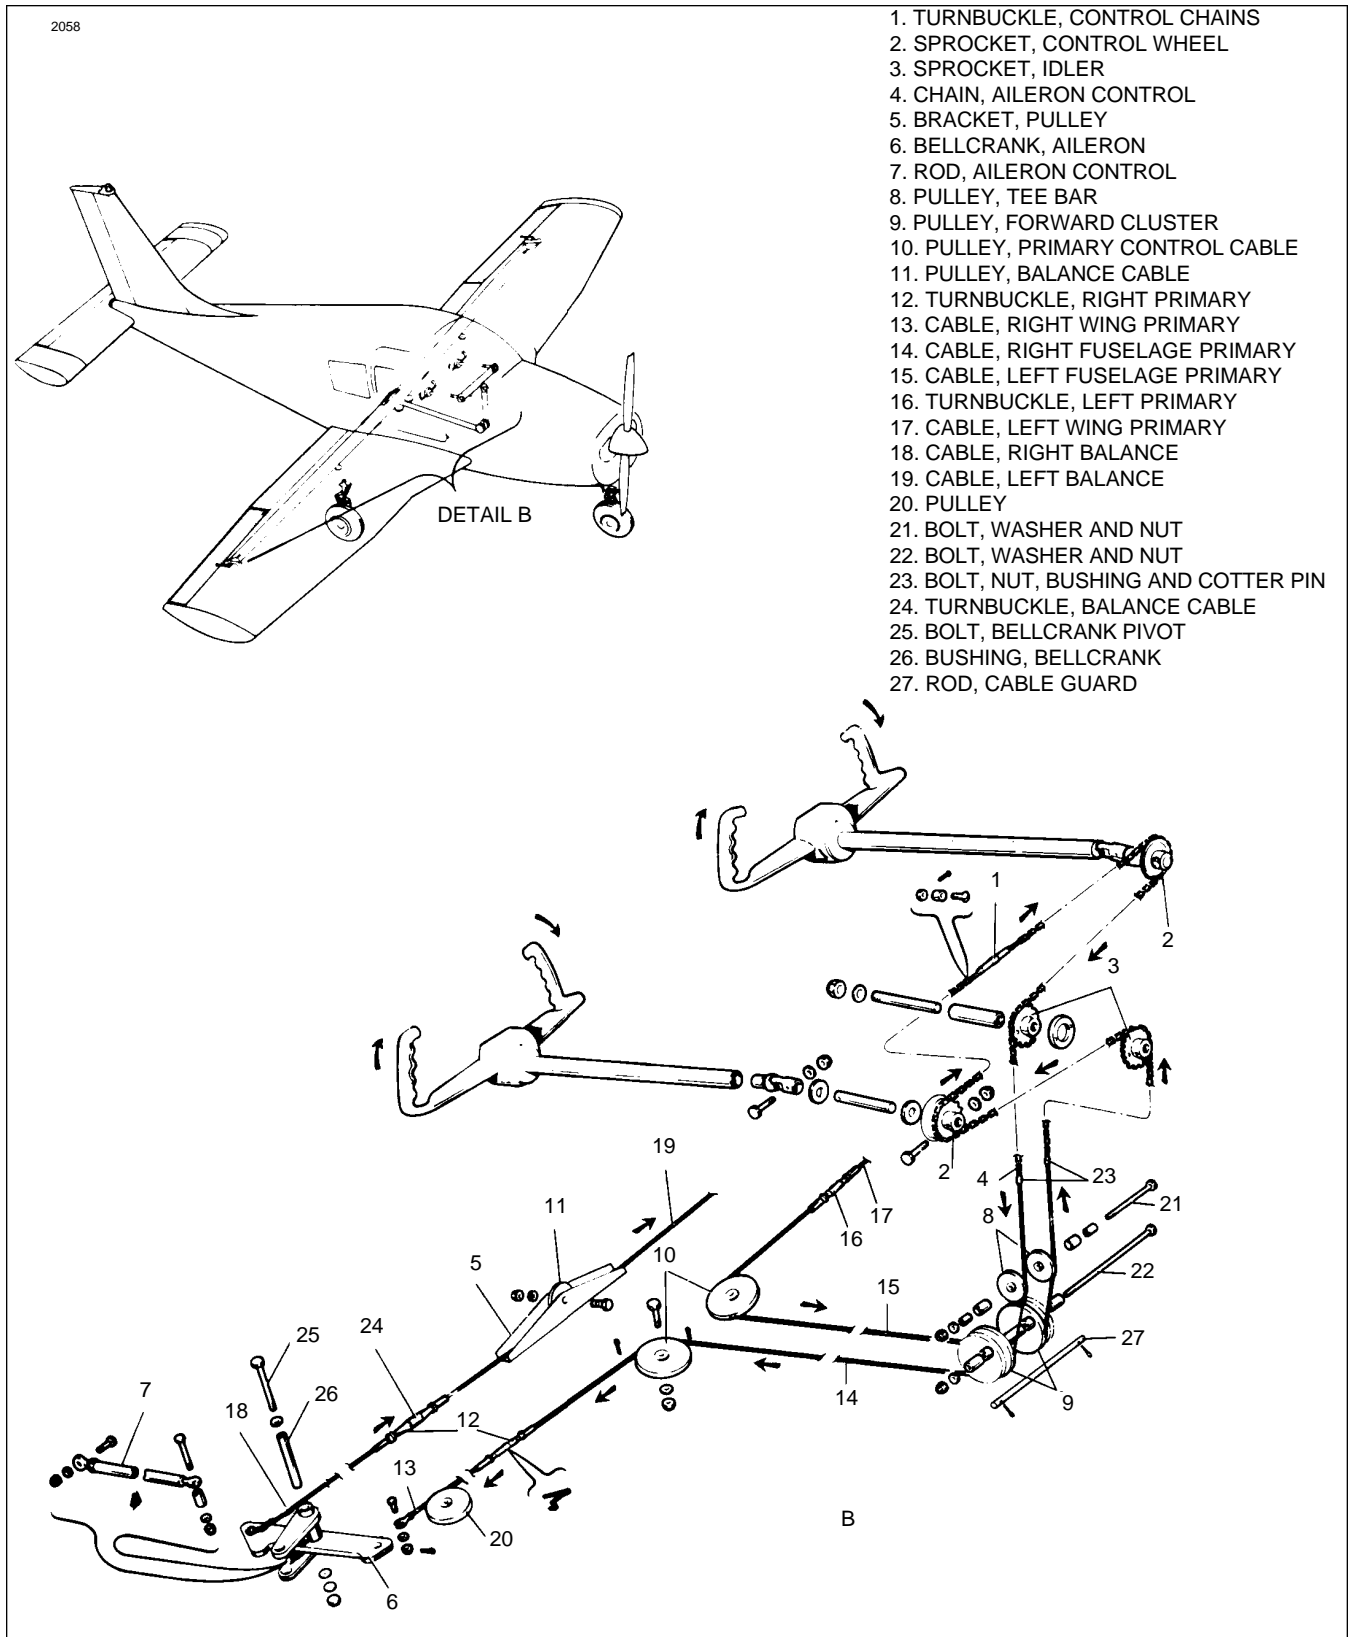

Figure 5-3. Aileron Controls
5-12. RIGGING AND ADJUSTMENT OF AILERON CONTROLS. (Refer to Figure 5-3)
- 2. Affix a bellcrank rigging tool, as shown in Figure 5-3, between the forward arm of each bellcrank and the adjacent rib. (This tool may be fabricated from dimensions given in Figure 5-3.) The slotted end of the tool fits on the arm forward of and adjacent to the primary control cable end. The other end of the tool is positioned so that the side of the tool contacts the aft side of the bellcrank stop. The bellcrank must be moved to allow a snug fit of the tool between the bellcrank arm and rib. To do so, it may be necessary to loosen a primary control cable or the balance cable. The neutral position may also be found by locating the position at which the forward and aft cable connection holes are an equal distance from the adjacent outboard wing rib.